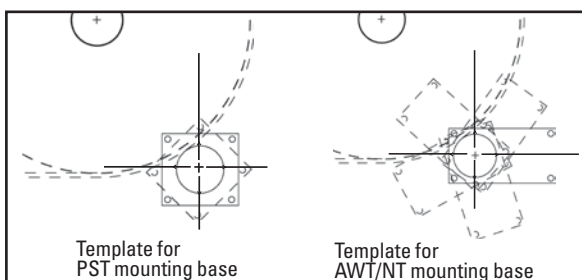

Fig. 3 Center large template hole notches on pole center mark, rotate to desired angle and trace holes
3. **Mark and cut the mounting base holes.** Using the mounting base template provided in the instruction packet, position the large pole hole of the template on the chute with the hole notches aligned with the layout lines. Trace the pole hole and mounting holes (Fig. 3). Each base can be mounted in any position 360° around the pole as long as the pole's center point does not change. Cut the holes on both sides of the chute.